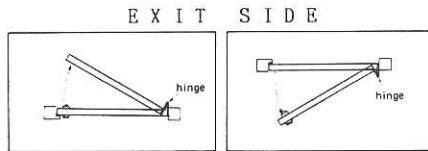
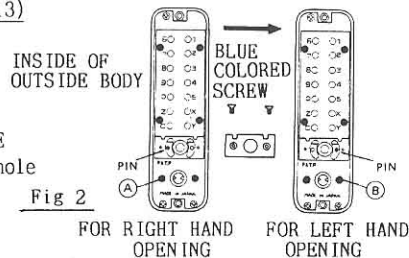

Fig 1
Fig 2
- If the door is hinged on the right : 'RIGHT HAND OPENING' (Fig 1)
- b) Using the tweezers provided part (12) take out the pin and insert it into the opposite hole.
- c) Replace the plate and screws. (see Fig 2)